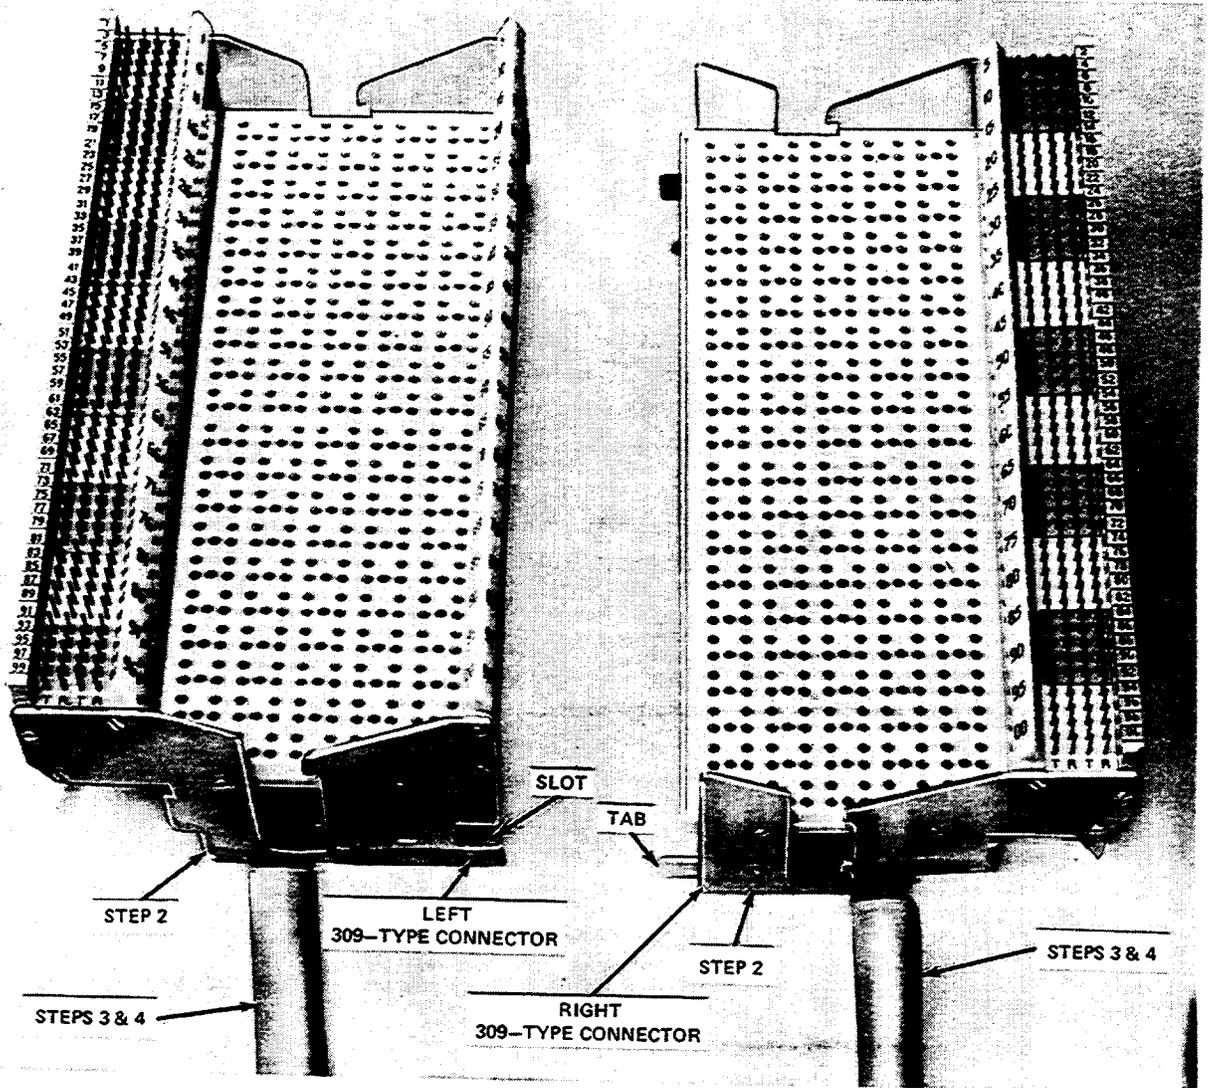

Figure 7—Front View of 309-Type Connectors
- (1) See Figure 7 and 8 for numbers that correspond to the following steps.
- (2) After removing the 309-type connectors from their cartons, determine the connector section